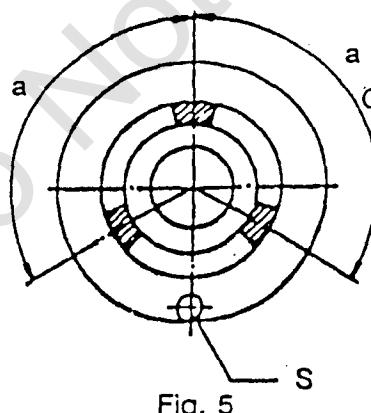

Fig. 5
- * Place two correction weight "K" anywhere around the periphery ,but at equal distance "a" from weight "G" (Fig. 5)